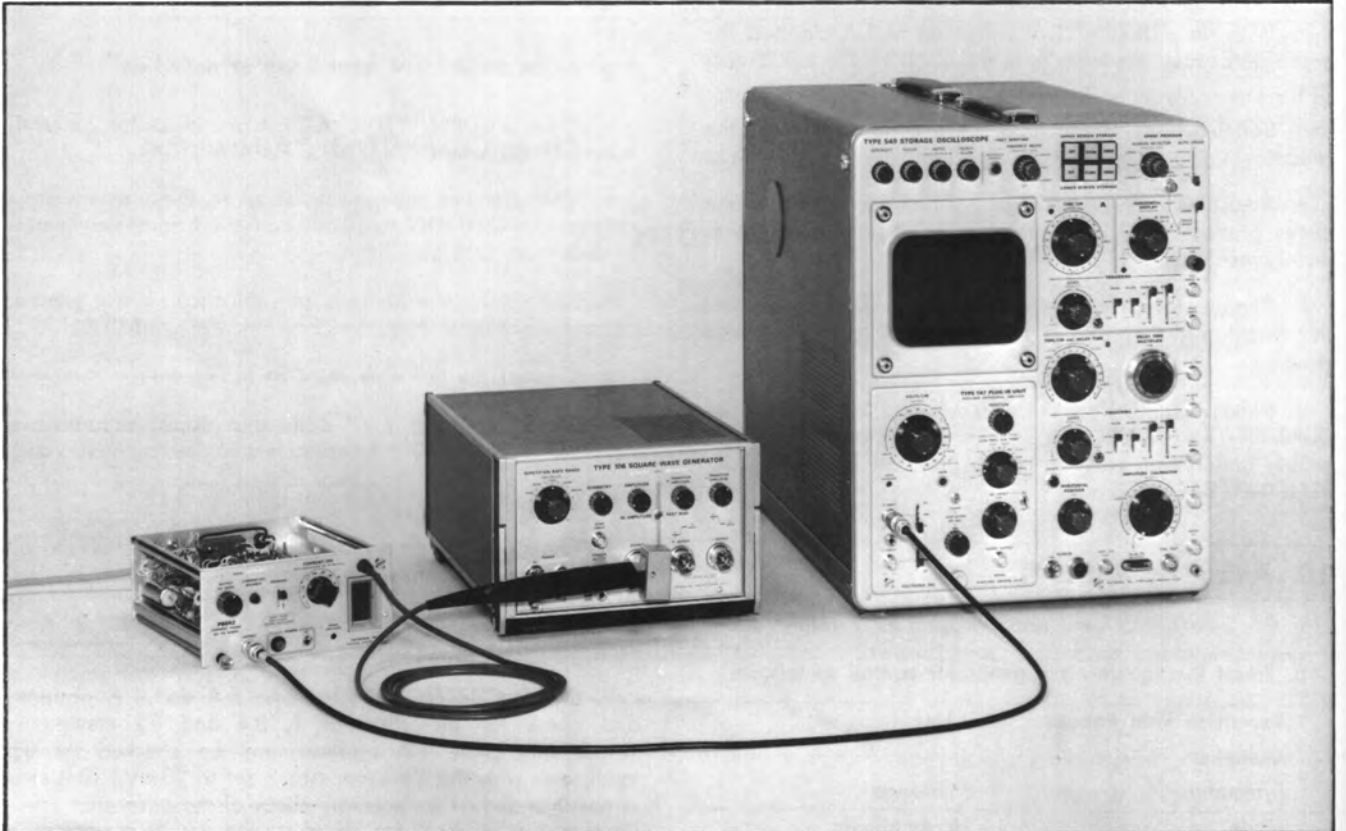

Fig. 6-12. Test setup for steps 10 and 11.
f. Set CURRENT/DIV to 5 mA and Volts/cm to 50 mV. Degauss the probe and connect to the current loop. See Fig. 6-12.
e. Connect the test equipment is in Fig. 6-12.
d. Switch CURRENT/DIV to 10 mA and remove the two 10× attenuators. Connect current loop and probe as in Fig. 6-12.